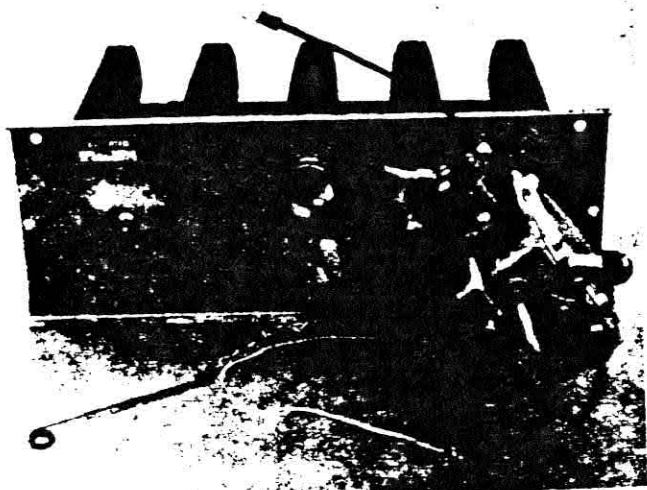

Figure 3
3. Assemble General Controls Gas Valve with "Outlet" end assembled on manifold pipe, and on "inlet" end assemble street elbow and union supplied in kit. See Figure 3.